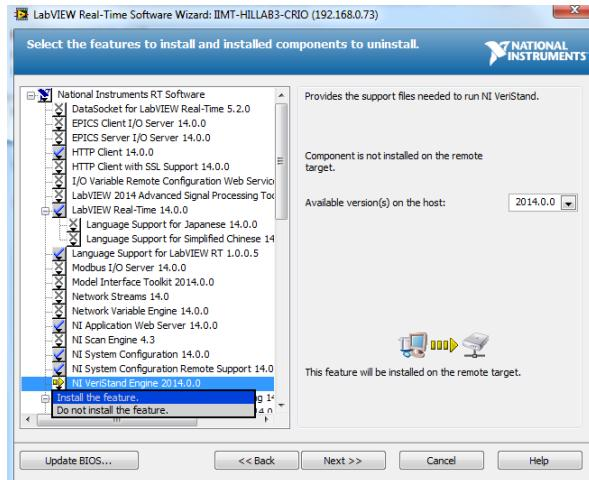

Figure 33: NI MAX - NI Veristand Engine installation 1
4. Locate NI Veristand Engine 2014 0.0 and click install feature. See Figure 33